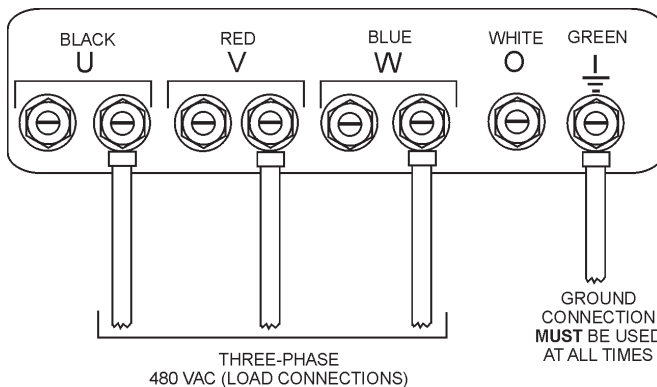

Figure 27. UVWO Terminal Lugs 3Ø-480V Connections
2. Connect the load wires to the UVWO terminals as shown in Figure 27.